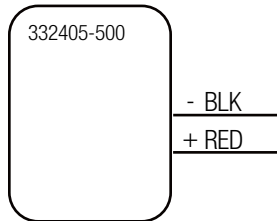

Figure 1
STEP 1 Connect DCS 4-20mA wiring to provided flying leads as shown in Figure 1